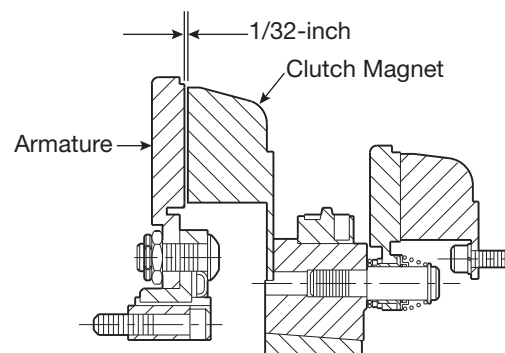

Figure 13
2. Adjust the armature's position to allow a 1/16-inch gap between the magnet and armature faces. (Figure 13)